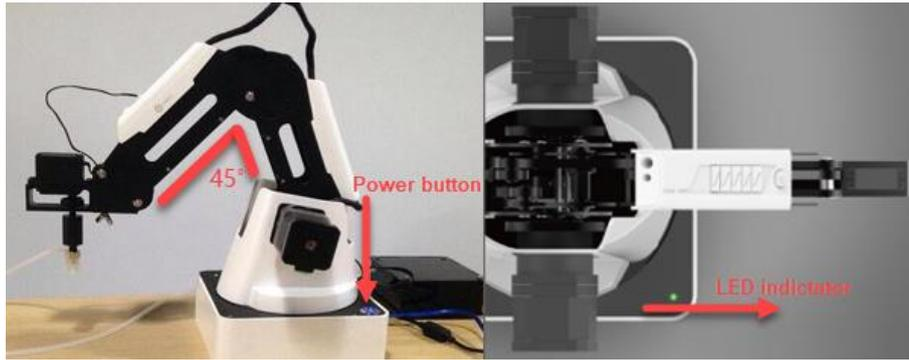

Figure 3.2 Gesture of Dobot Magician before power-on
- **Power on:** align the Dobot Magician into its neutral position with its Forearm and Rear Arm constructing a 45-degree angle, and press down the power button in the base, as shown in Figure 3.2. Once the robotic arm is powered on, the LED indicator turns yellow, and all the stepper motors lock. And then wait about seven seconds, a short beep sound will be heard, and the LED indicator turns from yellow to green. Now the Dobot Magician is powered on.